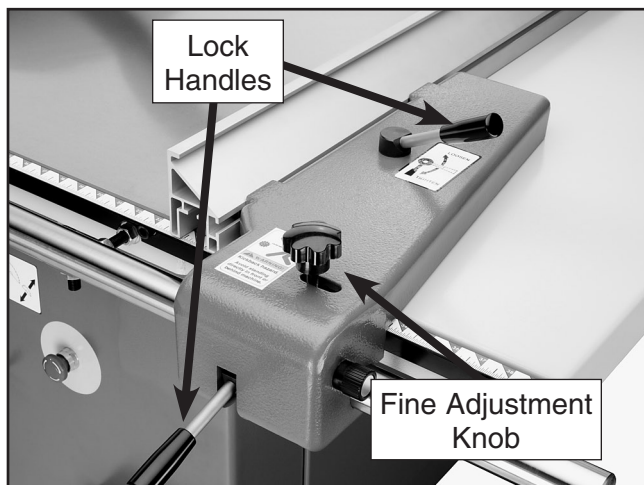

Figure 28. Rip fence handles.
6. Thread the lock handles (**Figure 28**) into the rip fence body and loosely install the fine adjustment knob.